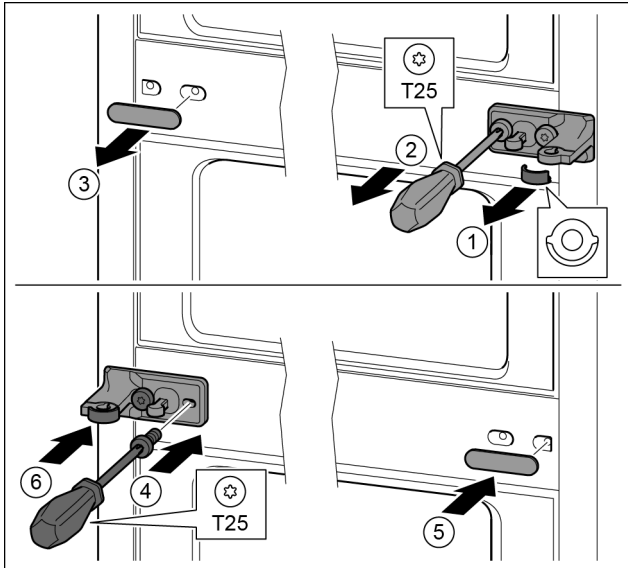

Fig. 29
- ▶ Remove the washer. *Fig. 29 (1)*
- ▶ Remove the screws with the T25 screwdriver. *Fig. 29 (2)*
- ▶ Remove the cover carefully. *Fig. 29 (3)*
- ▶ Screw the bearing bracket and the film rotated 180° firmly onto the other side. *Fig. 29 (4)*
- ▶ Attach the cover rotated 180° onto the other side. *Fig. 29 (5)*
- ▶ Push the washer in from the front. *Fig. 29 (6)*